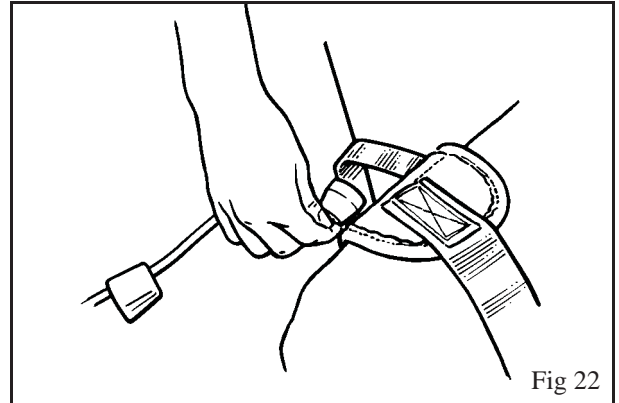

Fig 22
- Identify the attachment strap on each leg section of the sling and attach the right hand attachment cord to the left strap, repeat for the other side. (See Fig 22 and Fig. 17 for attachment of the cords)